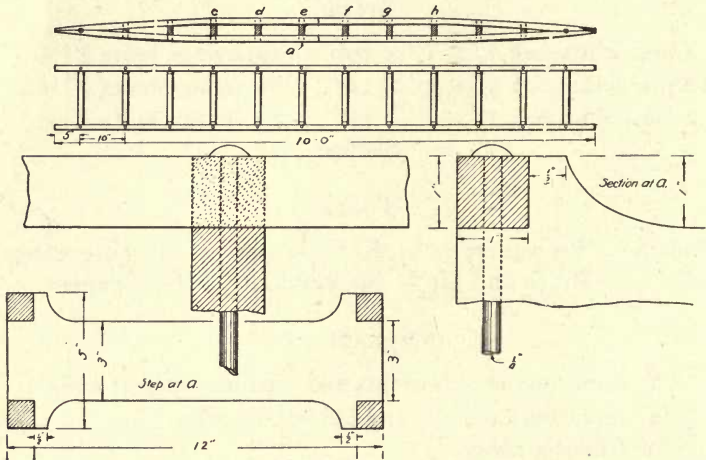

FIG. 76.—WORKING DRAWINGS OF TRUSSED LADDER.
2. **Squaring up steps and cutting notches.** — The steps are all squared up to the same size and planed smooth. After the ladder is assembled temporarily, some of the steps near the end will be found extending out beyond the strips. Cut six steps as shown in Fig. 76, with the